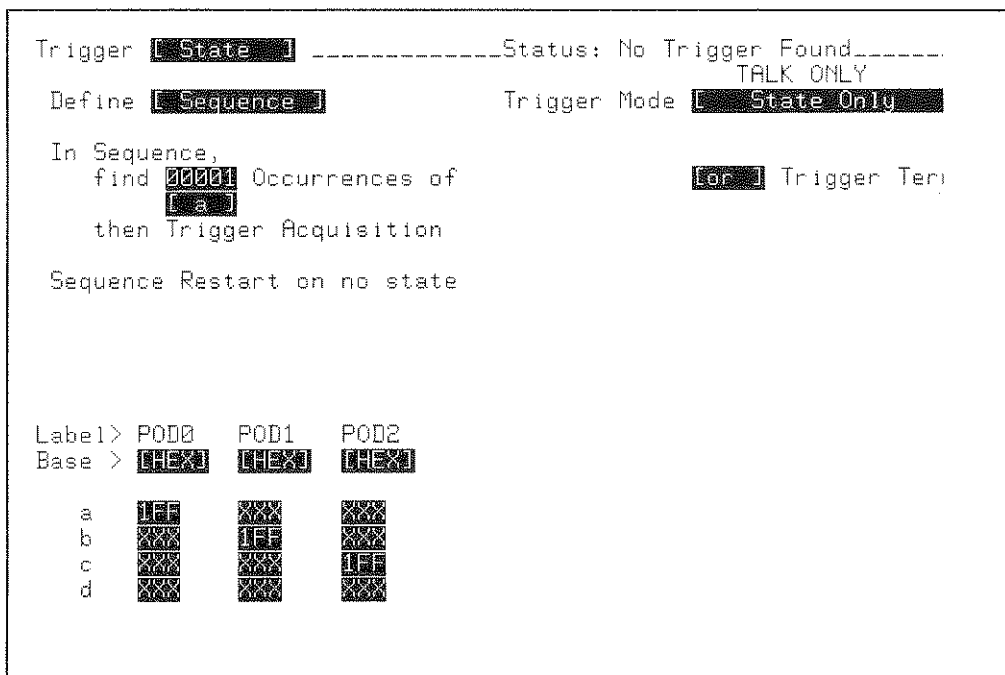

Figure 9-21. TRIGGER State / Define [Sequence] Menu
5. Configure the TRIGGER State / Define [Sequence] menu as shown in figure 9-21.
17. Repeat steps 12 through 15 for POD 1, with the following change: in step 5, reconfigure the menu in figure 9-21 with "Occurrences of [b]".
19. Repeat steps 12 through 15 for POD 2, with the following change: in step 5, reconfigure the menu in figure 9-21 with "Occurrences of [c]".